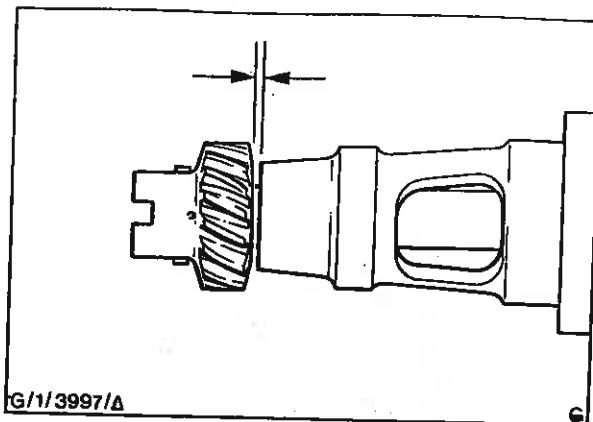

Fig. 7 - Skew Gear to Pump Body Clearance
#### Reassembly - Refer to Fig. 7
2. Press the skew gear onto the shaft until a clearance of 0,13 to 0,38 mm (0,005 to 0,015 in) is obtained between the gear and the pump body, with the rotor flush with the end plate face (Fig. 7).
Assembly - Refer to Fig. 7